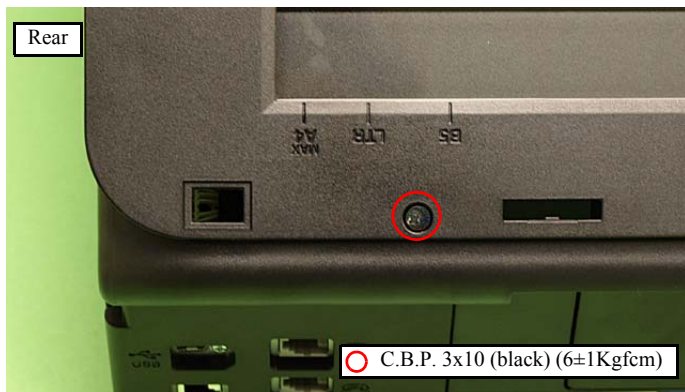

Figure 4-7. Removing the Scanner Unit (2)
- While aligning the screw holes with the Scanner Unit open, secure them temporarily with the screw (x1) shown in Fig. 4-7. (It is recommended to prepare a pillow-shaped supporter to keep this position.)